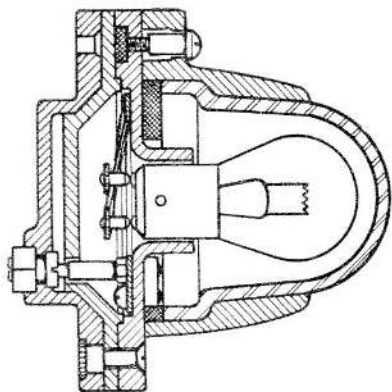

Fig. 2. Sectional drawing of lamp
3. The socket for the filament lamp (*fig. 2*) is formed in a base plate, with the contacts supported on flat leaf springs behind it. These springs are C-shaped and each is fixed at one end by a screw and a socket insert. The socket insert has a threaded foot which screws into the base, and a hexagonal collar. The socket inserts project through an inner cover, which is fixed behind the contact springs and secured to the base plate by two csk/hd. screws not shown in the illustration.